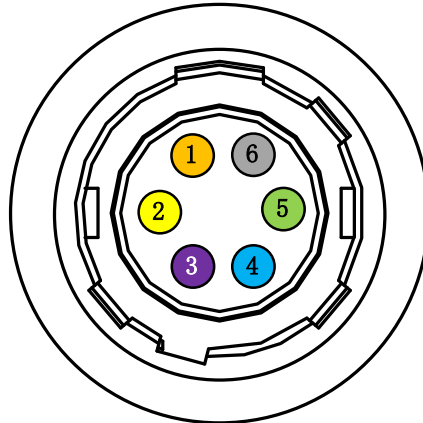

Figure 4-10 6-Pin P7 Connector
- The wire cores shown in figure 4-10 and table 4-2 are only the wire sequence and the corresponding wire core color of the cables sold by our company. If the cables are not purchased from our company, please refer to the actual wire sequence and the corresponding wire core color.